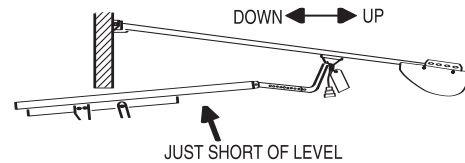

Figure 2 Checking the open limit on one-piece
- Move the door in the open direction and wait for the door to stop moving (**Figure 2**).